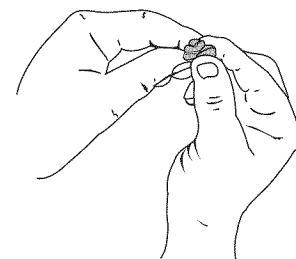

Fig. 17
5. Squeeze the filter to spread and remove excess oil (Fig. 17).